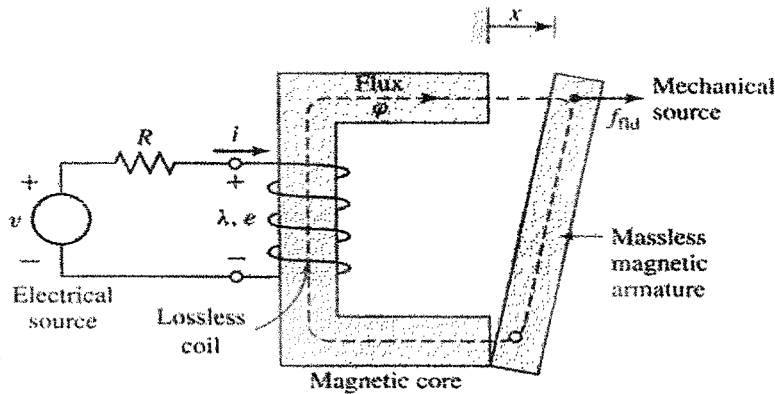

Fig.1
1. a) Consider the operation of an electromagnetic relay shown in fig.1, where one winding is mounted on a stationary member of iron and a movable member of iron is attached to a wall of the relay by a spring on one side. Now show that the energy converted to mechanical form equals the area between the two magnetization characteristics (flux vs.mmf) respectively for the open position and closed position with respect to movement of the plunger. Assume the necessary parameters for the system concerned.
- b) Derive the expressions for mechanical force in terms of field energy and co-energy if the plunger shown in fig.1 is allowed to move an infinitesimal distance in the direction of magnetic force acting upon it. 9+8=17
2. In an electromagnetic relay shown in fig. 1, the exciting winding has 3000 turns. The cross-sectional area of the magnetic core is $30 \text{ cm} \times 30 \text{ cm}$. The reluctance of the magnetic circuit may be assumed to be negligible. Also neglect fringing effects.